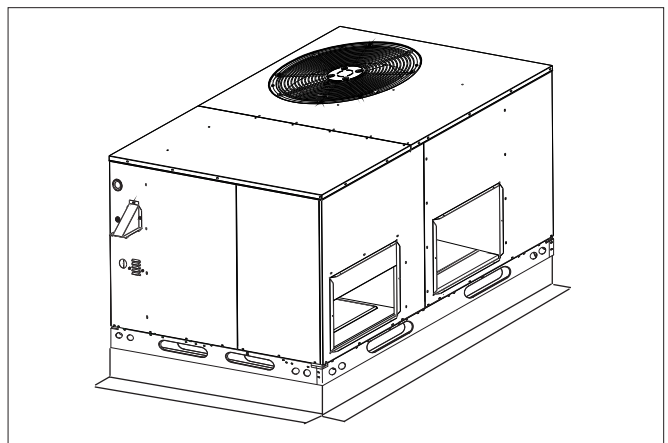

Figure 6. Roof Curb Installation.
**Rooftop** — For rooftop installations (See **Figure 6**) use the appropriate accessory roof curb and follow all instructions included with it. Make sure the supports beneath the unit have been removed. Locate the unit according to local building codes and ordinances. The curb must be level to insure proper condensate drainage.